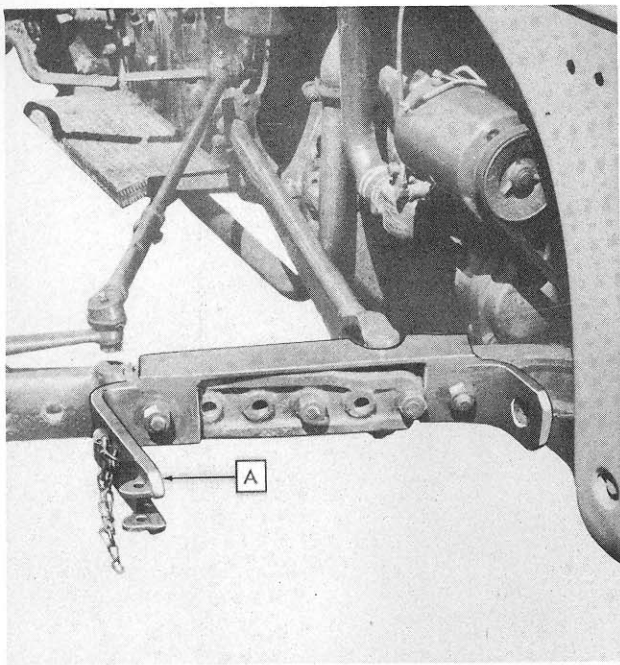

Figure 4
**Step 5.** Attach front mounting brackets (A) to axle of tractor, using 3rd and 9th holes in axle, as shown in Figure 4.